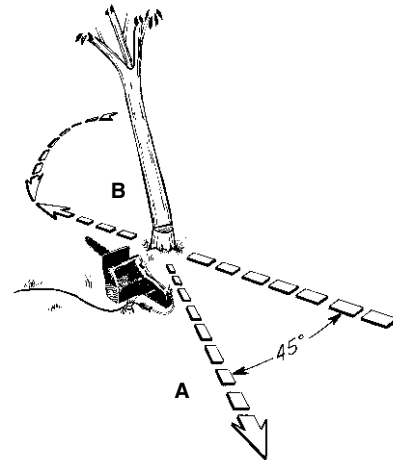

Fig.17
WARNING: A retreat path (A) should be planned and cleared as necessary before cuts are started. The retreat path should extend back and diagonally to the rear of the expected line of fall, as illustrated in Figure 17.
<p>When tree begins to fall, remove saw from cut, stop engine, put chain saw down, and leave area along retreat path (Figure17).</p>